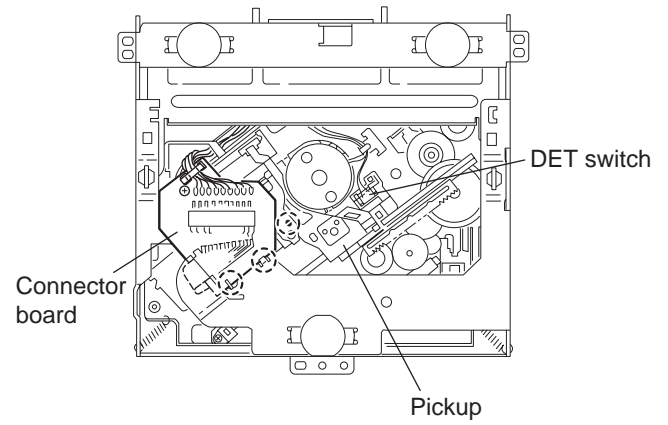

Fig.6
- (1) Remove the three screws **D**, three screws **E** and two screws **F** on the back side of the main body.
- (2) Remove the rear bracket.
3.1.6 Removing the main board (See Fig.6)
3.2.3 Removing the DET switch (See Figs.6 and 7)